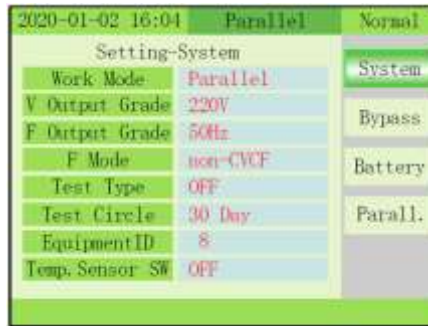

Fig. 4-12 Setting/Maintenance - System menu
- 10) MAINTENANCE – SYSTEM: Press OFF key to enter item and confirm value, press ↻ change value (Fig. 4-12).